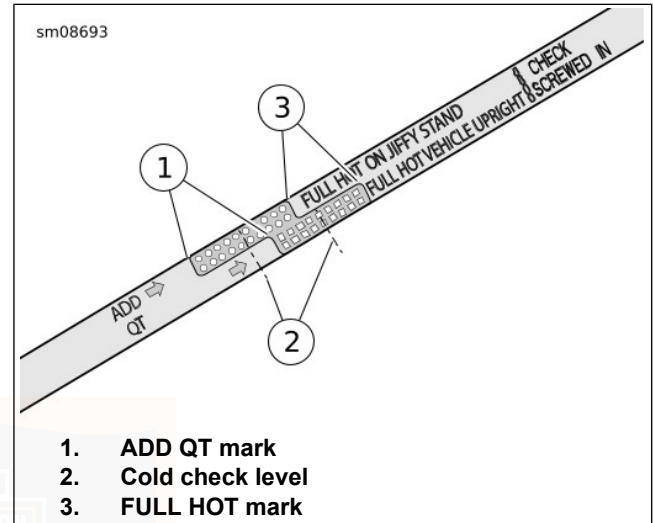

Figure 46. Engine Oil Dipstick
See Figure 46. When checking oil level, use the gauge marked FULL HOT VEHICLE UPRIGHT.
3. See Figure 46. Remove filler plug/dipstick. Using the gauge marked FULL HOT VEHICLE UPRIGHT on the dipstick, verify the oil level. The correct oil level should register midway (2) between the ADD QT and FULL HOT marks on the dipstick.
6. Check oil level. Add only enough to bring level midway between the ADD QT (1) and FULL HOT (3).
4. See Figure 46. Remove filler plug/dipstick. Using the gauge marked FULL HOT VEHICLE UPRIGHT on the dipstick, verify the oil level. The level should be between the ADD QT (1) and FULL HOT (3) marks. Add oil as necessary to bring the level to the FULL HOT mark on the dipstick. Do not overfill.